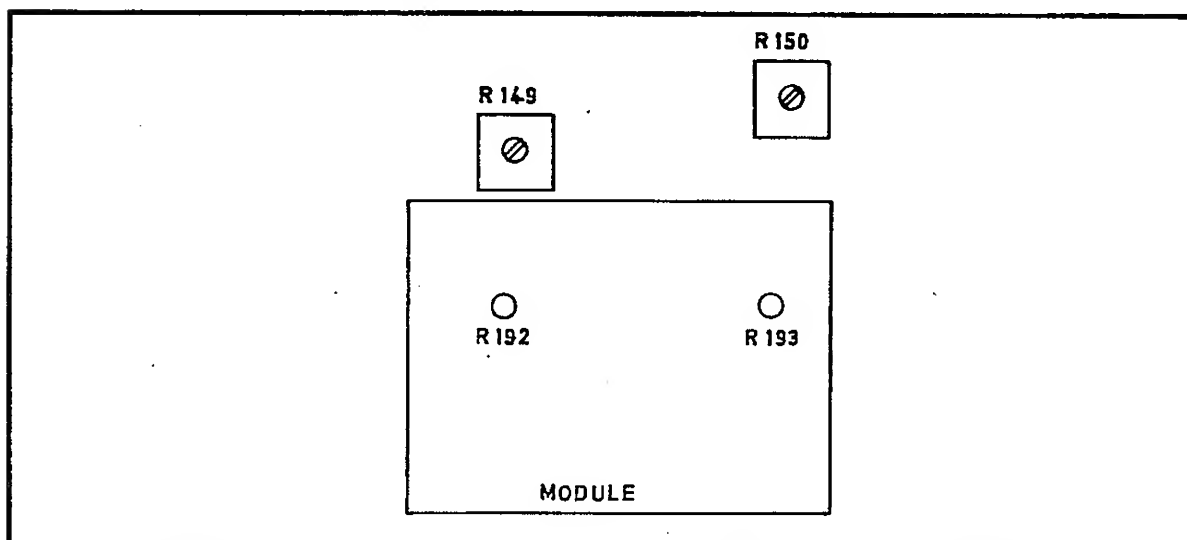

Fig 7.9 Location of R149 and R192
- 29 Set R149 fully counter-clockwise and R192 to its mid-position. R192 is located inside the screened module, as shown in Fig 7.9.